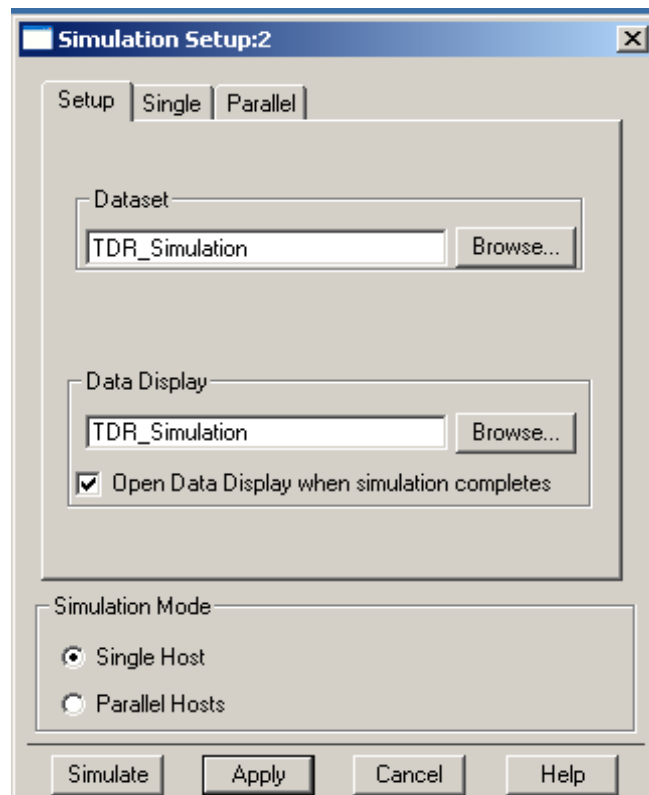

Figure 4: Simulation setup for TDR simulation
4. Setup your simulation by choosing **Simulate->Setup Simulation**. Set the settings as shown in Figure 4 below. Click on “Apply” to save the settings and then “Cancel” to close the dialogue box.